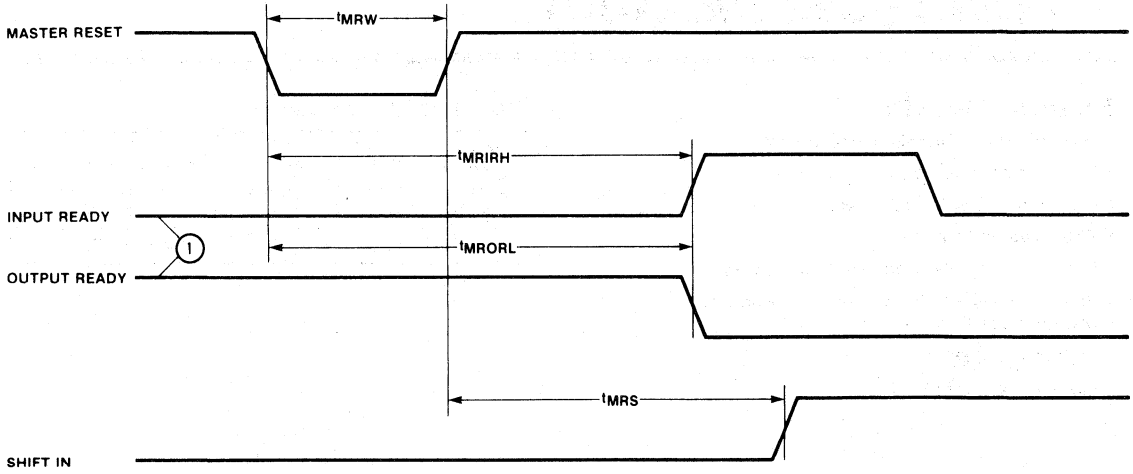

Figure 10. Master Reset Timing
After power up the Master Reset is pulsed low (Fig. 10) to prepare the FIFO to accept data in the first location. When Input Ready (IR) is HIGH the location is ready to accept data from the Dx inputs. Data then present at the data inputs is entered into the first location when the Shift In (SI) is brought HIGH. A SI HIGH signal causes the IR to go LOW. Data remains at the first location until SI is brought LOW. When SI is brought LOW and the FIFO is not full, IR will go HIGH, indicating that more room is available. Simultaneously, data will propagate to the second location and continue shifting until it reaches the output stage or a full location. The first word is present at the outputs before a shift out is applied. If the memory is full, IR will remain LOW.